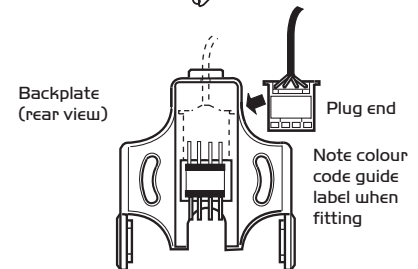

Figure 3.
- Before fixing the backplate to the wall, connect the wall fixed cable end plug to the upper set of pins on the bracket (fig 3).